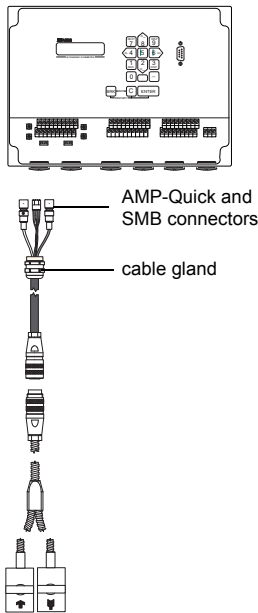

Fig. 5.13: Transducers - direct connection
- Remove the left blind plug for the connection of the transducers (see Fig. 5.13).
- Connect the AMP-Quick und SMB connectors to the sockets of the transmitter (see Fig. 5.13 and Table 5.10).